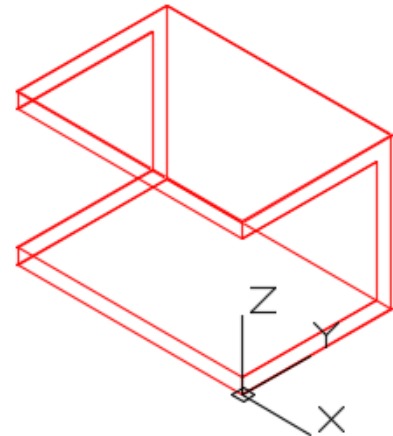

Figure Step 3A
Step 3 Draw a wireframe model of the object shown in the figure. (Figure Step 3A and 3B)